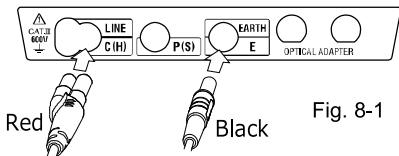

Fig. 8-1
- (1) Press the PV button to select insulation measurement function. The LCD shows "InSU" for about one second, and the PV LED turns off.
- (2) Connect the test leads as Fig. 8-1 shows.